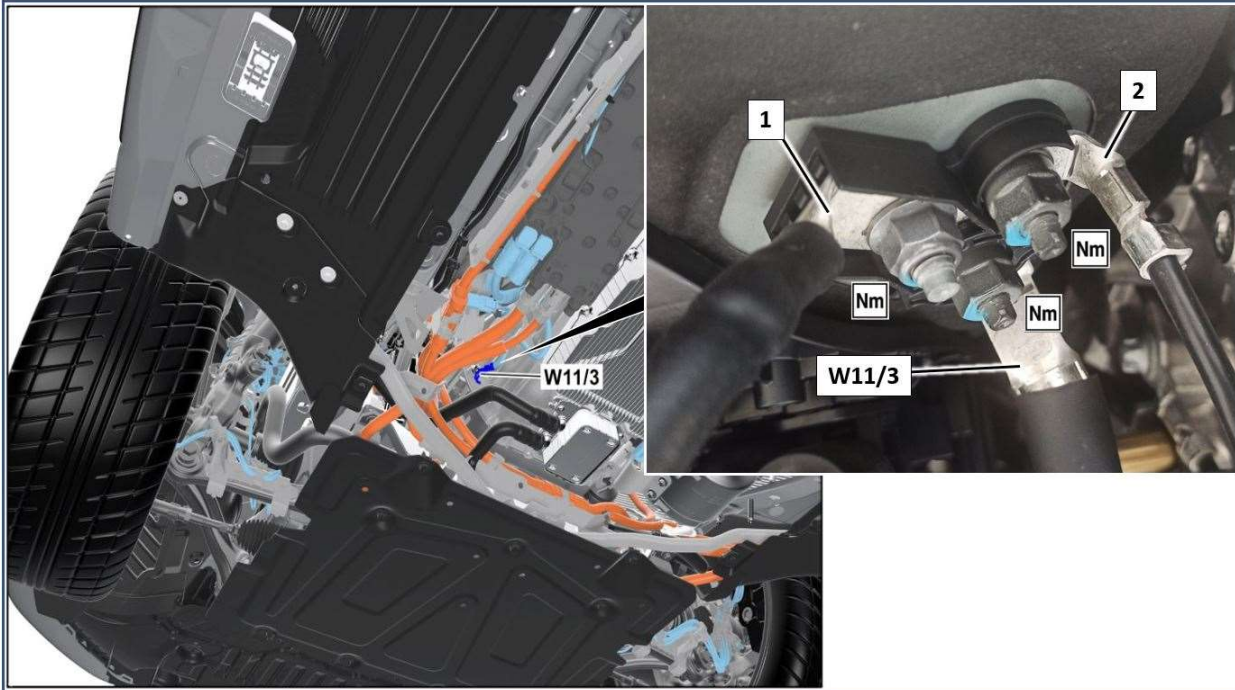

Figure 7
2. Check threaded connections at ground points (**Figure 7, 1, 2, & W11/3**) for correct tightening torque.
Left combustion engine ground point (**Figure 7, W11/3**) = 20 Nm
**Circuit 31 ground point with code B01 (Figure 7, 2) = 20 Nm**
**Circuit 41 ground point, with engine 654 and code B01 (Figure 7, 1) = 16 Nm**
1. Remove respective affected nut from ground point (**Figure 7, W11/3, 1, or 2**) and perform a visual check of the affected electric line, contact area, and weld stud.
1. Replace respective nut at ground point (**Figure 7, W11/3, 1, or 2**) and tighten with specified tightening torque.
Nm Left combustion engine ground point (**Figure 7, W11/3**) = 20 Nm
Nm Circuit 31 ground point with code B01 (**Figure 7, 2**) = 20 Nm
Nm Circuit 41 ground point, with engine 654 and with code B01 (**Figure 7, 1**) = 16 Nm